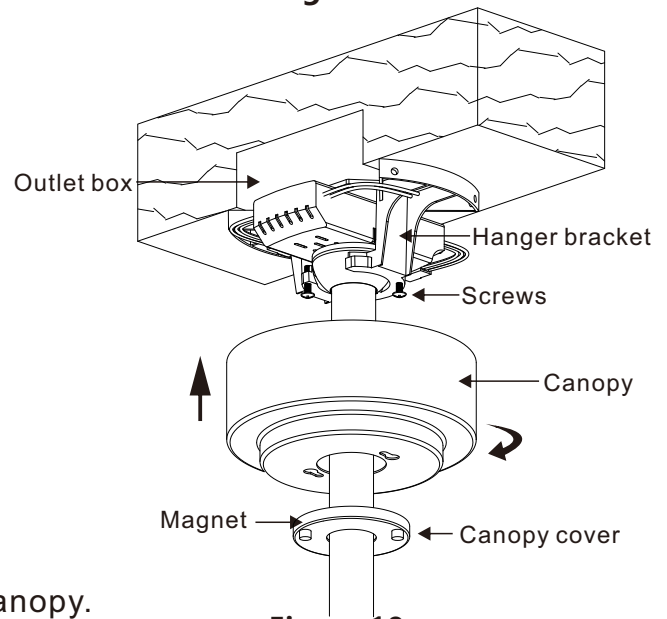

Figure 18
Step 2. Loosen the two screws on the bracket. Slide the canopy up to hanger bracket and place the key hole on the canopy over the screw on the hanger bracket, turn canopy until it locks in place at the narrow section of the key holes then tighten the two screws.(Fig.18)